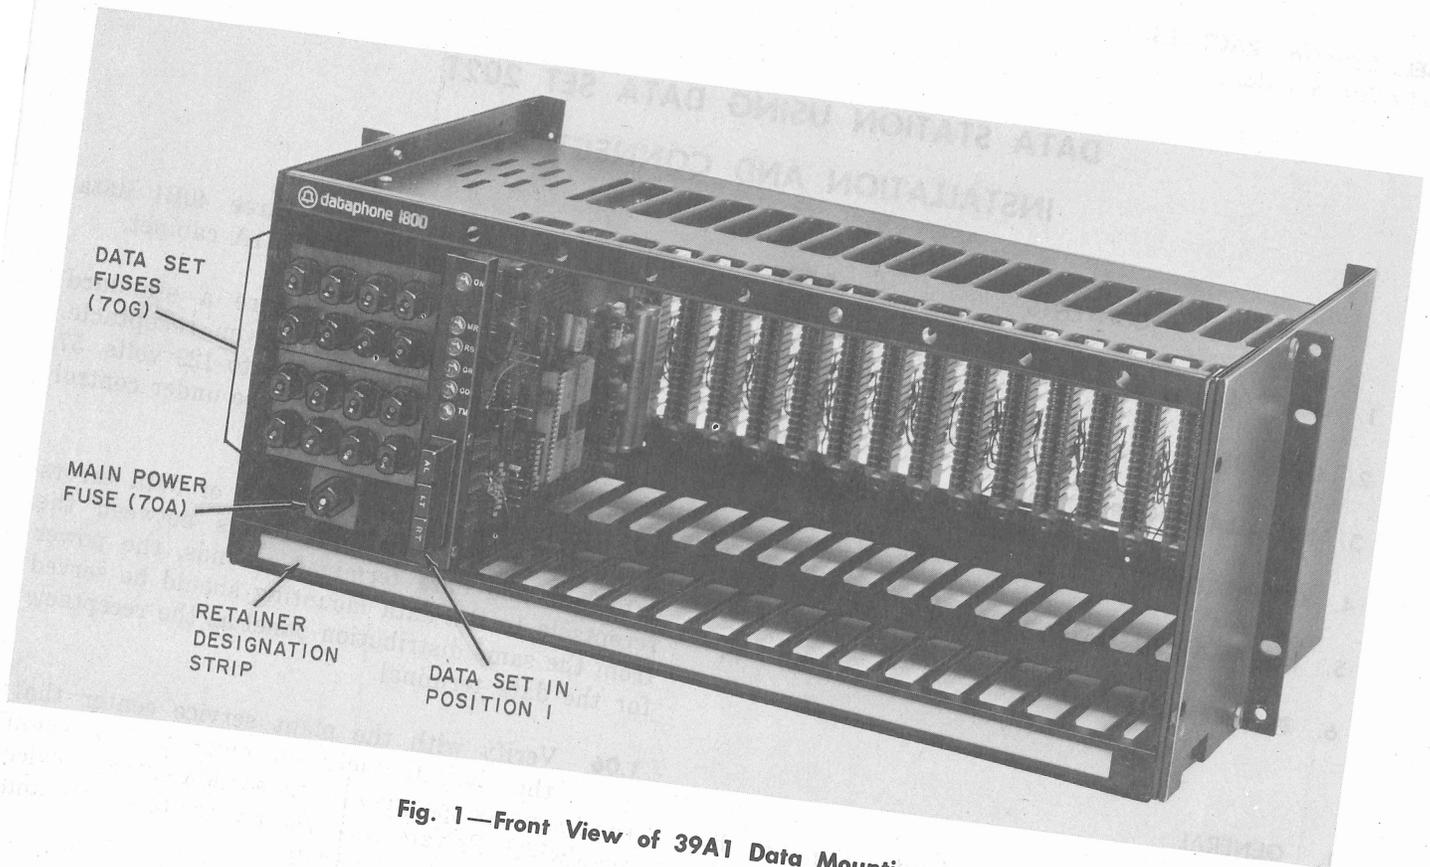
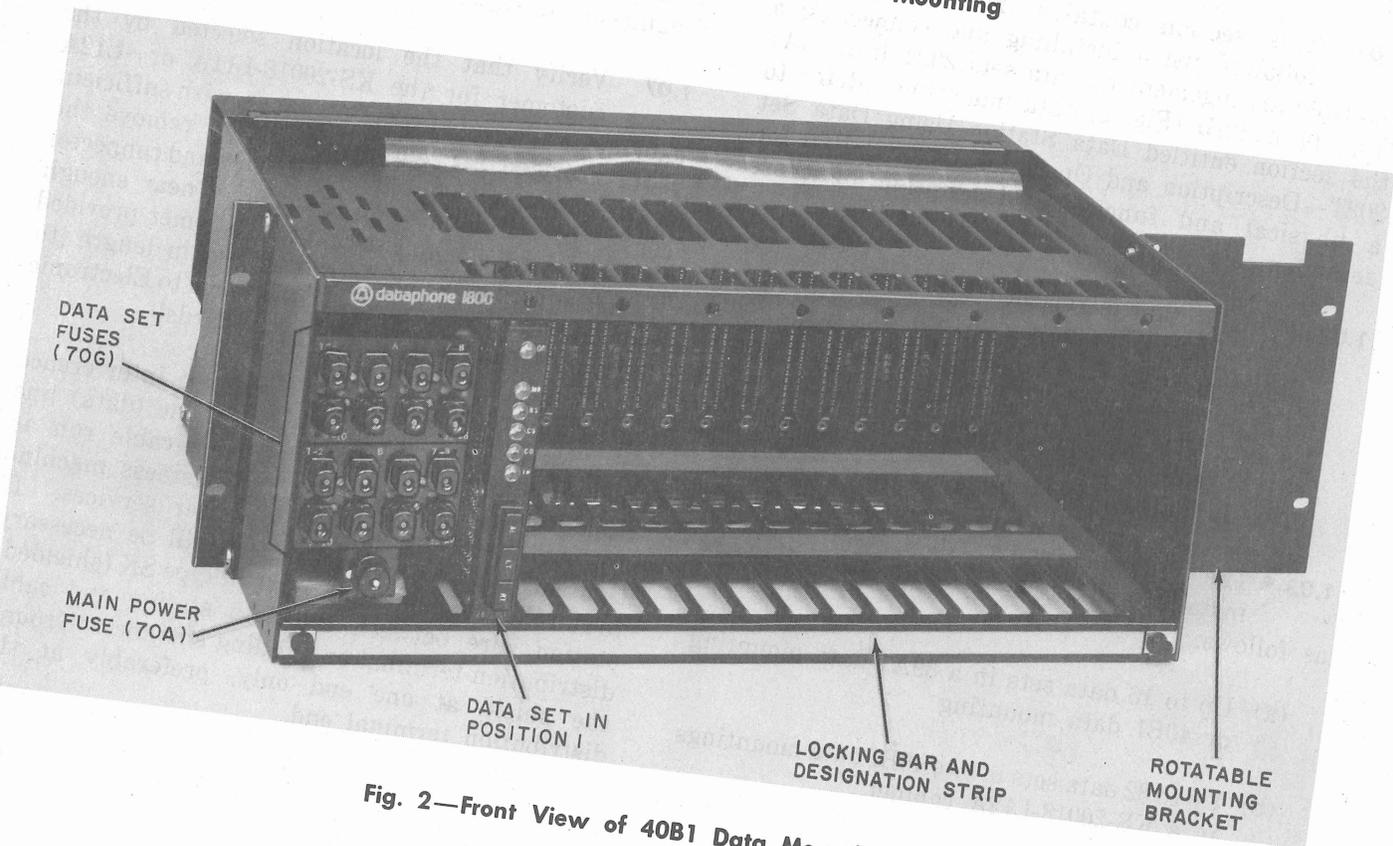

Fig. 1—Front View of 39A1 Data Mounting
Fig. 2—Front View of 40B1 Data Mounting
1.01 This section contains instructions to be followed when installing and connecting a multiple arrangement of data sets 202T in a 39A1 (Fig. 1) or 40B1 (Fig. 2) data mounting. Refer to the section entitled Data Station Using Data Set 202T—Description and Operation (592-861-100) for a physical and functional description of these arrangements.